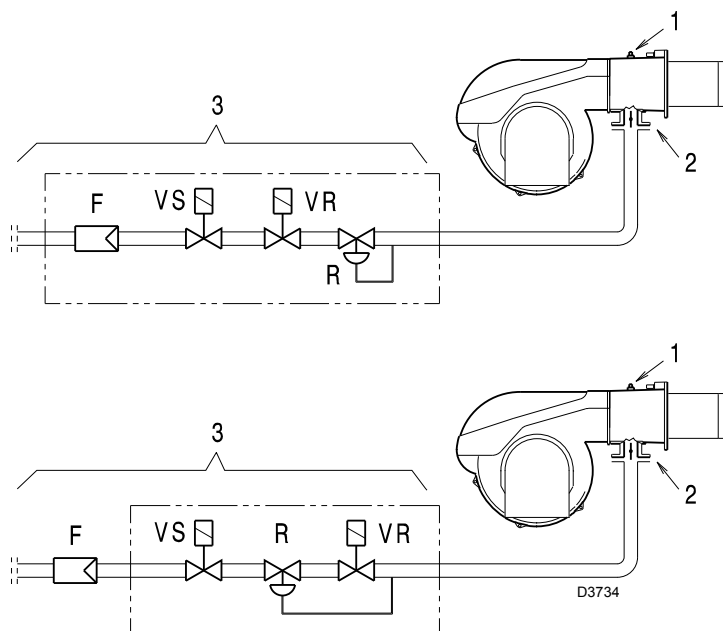

Fig. 40
Load loss at gas butterfly valve 2)(Fig. 40) with maximum opening: 90°.
Load loss at train 3)(Fig. 40) including: adjustment valve VR, safety valve VS (both fully open), pressure adjuster R, filter F.
- subtract the combustion chamber pressure from the gas pressure measured at test point 1)(Fig. 40);
- Gas pressure at test point 1)(Fig. 40) = 11.6 mbar
To know the required gas pressure at test point 1)(Fig. 40), set the maximum output required from the burner operation, then:
- read, on the right (column 1) the socket pressure 1)(Fig. 40);
- pressure required at socket 1)(Fig. 40).